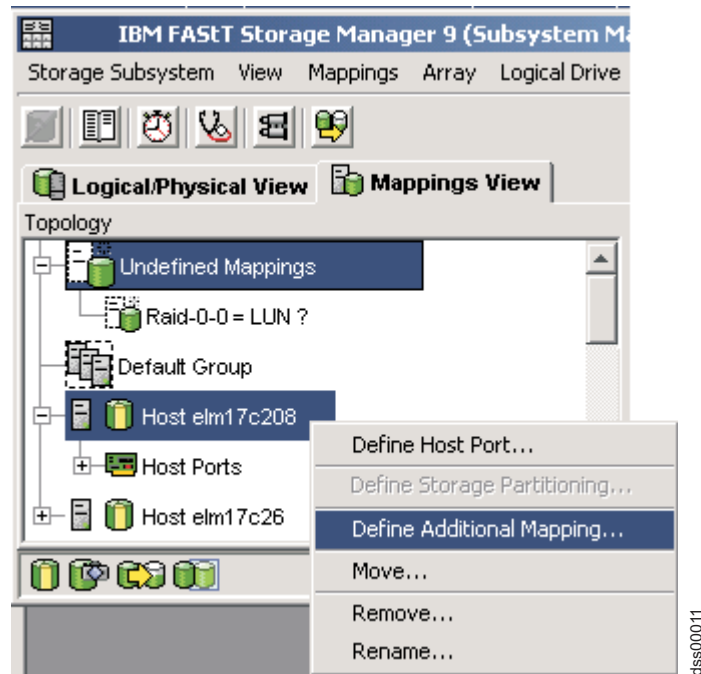

Figure 11. Define Additional Mapping
2. Right-click the host or host group to which you want to map the drive, and click **Define Additional Mapping**, as shown in Figure 11 on page 29.